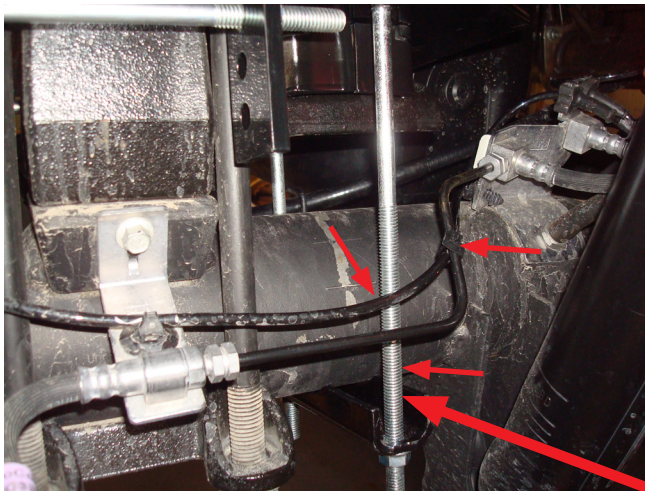

Fig. 22
*On the driver's (left) side, the long carriage bolt in the lower bracket main plate should be located between the hard brake line and axle (Fig. 22). On the passenger's (right) side, the carriage bolt should be located on the backside of the brake line (Fig. 23).*
On the passenger side, it may be necessary to pull the ABS tree mount out of the top of the bracket. Re-attach by installing the tree mount to the back (Figs. 22 & 23).
**PUSH THE HARD BRAKE LINE AWAY FROM THE LOWER BRACKET CARRIAGE BOLT IF THE LINE IS RESTING ON IT (FIG. 22 & FIG. 23).**